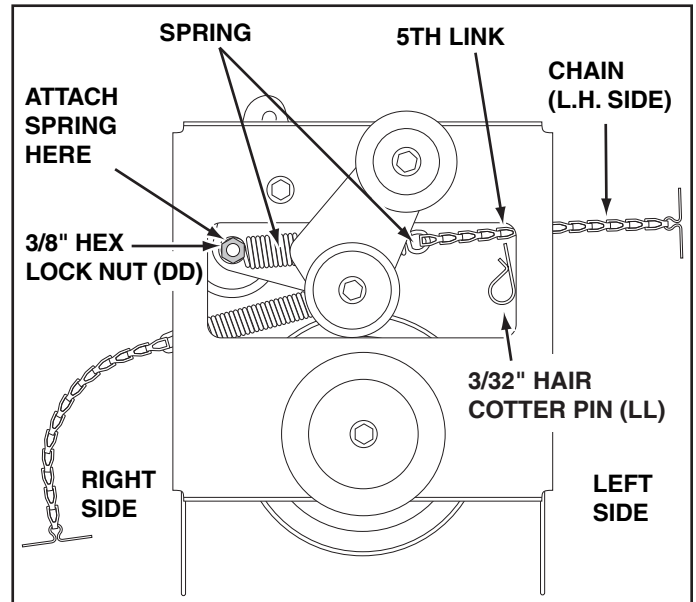

FIGURE 43
STEP 43: (SEE FIGURE 43)
- Hook the other end of the spring onto the bottom of the bolt and nut which secure the idler pulley to the upper idler arm. Hold the bolt head and assemble a 3/8" hex lock nut (DD) onto the bolt, leaving enough space for the spring to pivot freely between the two nuts.
- Attach a 3/32" hairpin cotter (LL) to the chain, placing it in the fifth link from the spring.